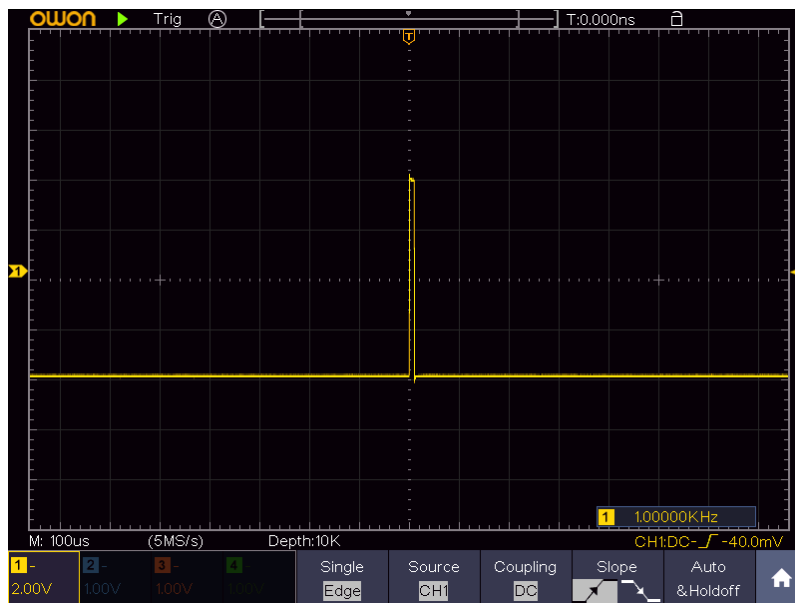

Figure 9-3 Capturing a Single Signal
- (2) Push **CH1** button to select CH1, adjust the **Vertical Scale** and **Horizontal Scale** knobs to set up a proper vertical and horizontal ranges for the signal to be observed.
- (3) Push the **Acquire** button to display the Acquire menu.
- (4) Select **Acqu Mode** in the bottom menu. Select **Peak Detect** in the right menu.
- (5) Push the **Trigger Menu** button to display the Trigger menu.
- (6) Select the first menu item in the bottom menu. Select **Single** in the right menu.
- (7) In the left menu, select **Edge** as the mode.
- (8) Select **Source** in the bottom menu. Select **CH1** in the right menu.
- (9) Select **Coupling** in the bottom menu. Select **DC** in the right menu.
- (10) In the bottom menu, select **Slope** as  (rising).
- (11) Turn the **Trigger Level** knob and adjust the trigger level to the roughly 50% of the signal to be measured.
- (12) Check the Trigger State Indicator on the top of the screen, if it is not Ready, push down the **Run/Stop** button and start acquiring, wait for trigger to happen. If a signal reaches to the set trigger level, one sampling will be made and then displayed in the screen. By using this approach, a random pulse can be captured easily. For instance, if we want to find a burst burr of high amplitude, set the trigger level to a slightly higher value of the average signal level, push the **Run/Stop** button and wait a trigger. Once there is a burr occurring, the instrument will trigger automatically and record the waveform during the period around the trigger time. By turning the **Horizontal Position** knob in the horizontal control area in the panel, you can change the horizontal triggering position to obtain the negative delay, making an easy observation of the waveform before the burr occurs (see *Figure 9-3*).